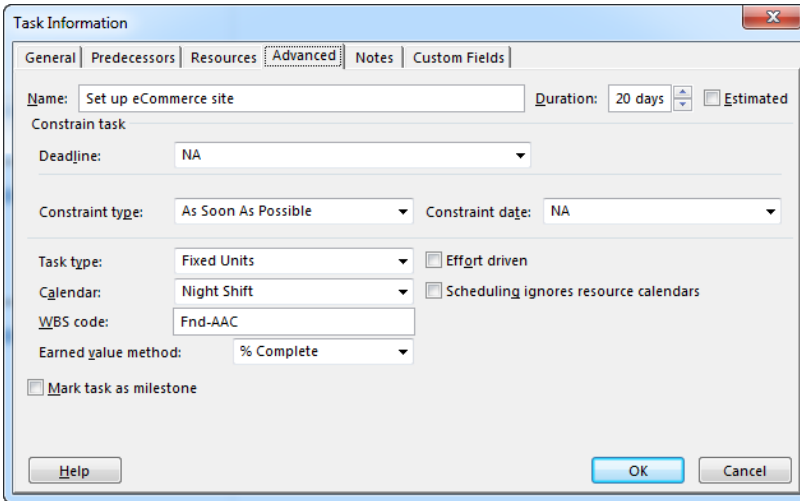

FIGURE 7-13
2. Click the dialog box's Advanced tab and, in the Calendar drop-down list, choose the calendar you want to apply, as illustrated in Figure 7-13.